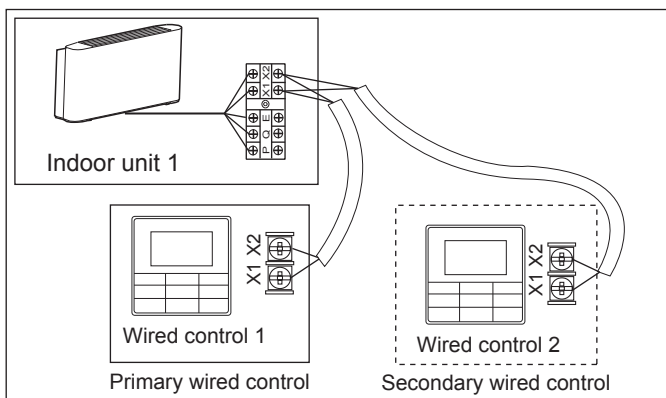

Figure 6.7
- Use 1 wired control to control 1 indoor unit or 2 wired controls (one primary and one secondary control) to control 1 indoor unit (see Figure 6.7);